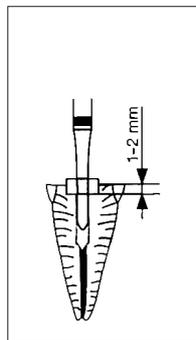

Fig. 2
- e) Prepare the central inlay cavity. Vlock only. (countersink) (Fig 2)